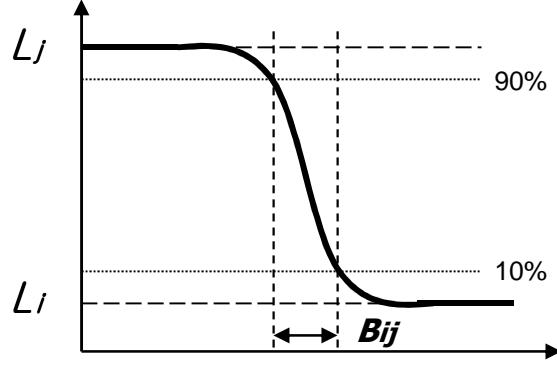

FIG. 4 MPRT
5. MPRT is defined as the 10% to 90% blur-edge width Bij (pixels) and scroll speed U(pixels/frame)at the moving picture. For more information, see FIG 4